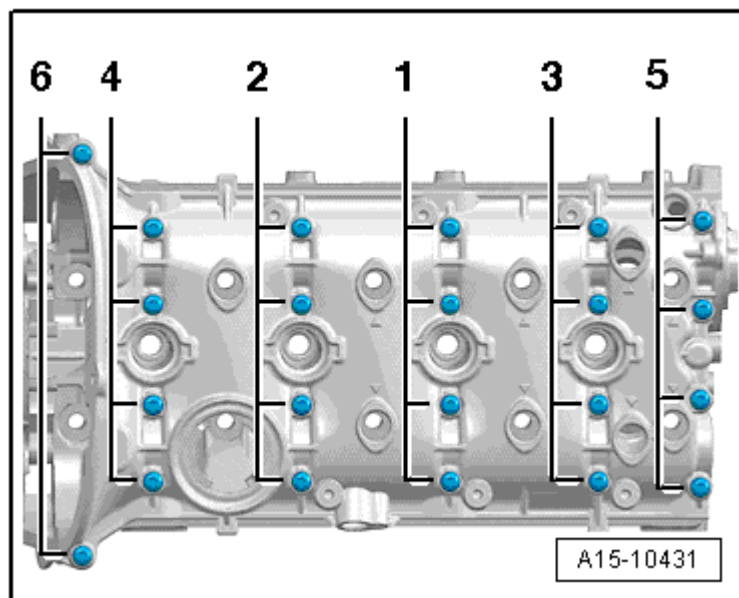

Fig. 17: Identifying Cylinder Head Cover - Tightening Sequence
- Tightening sequence, refer to **Fig. 17.**